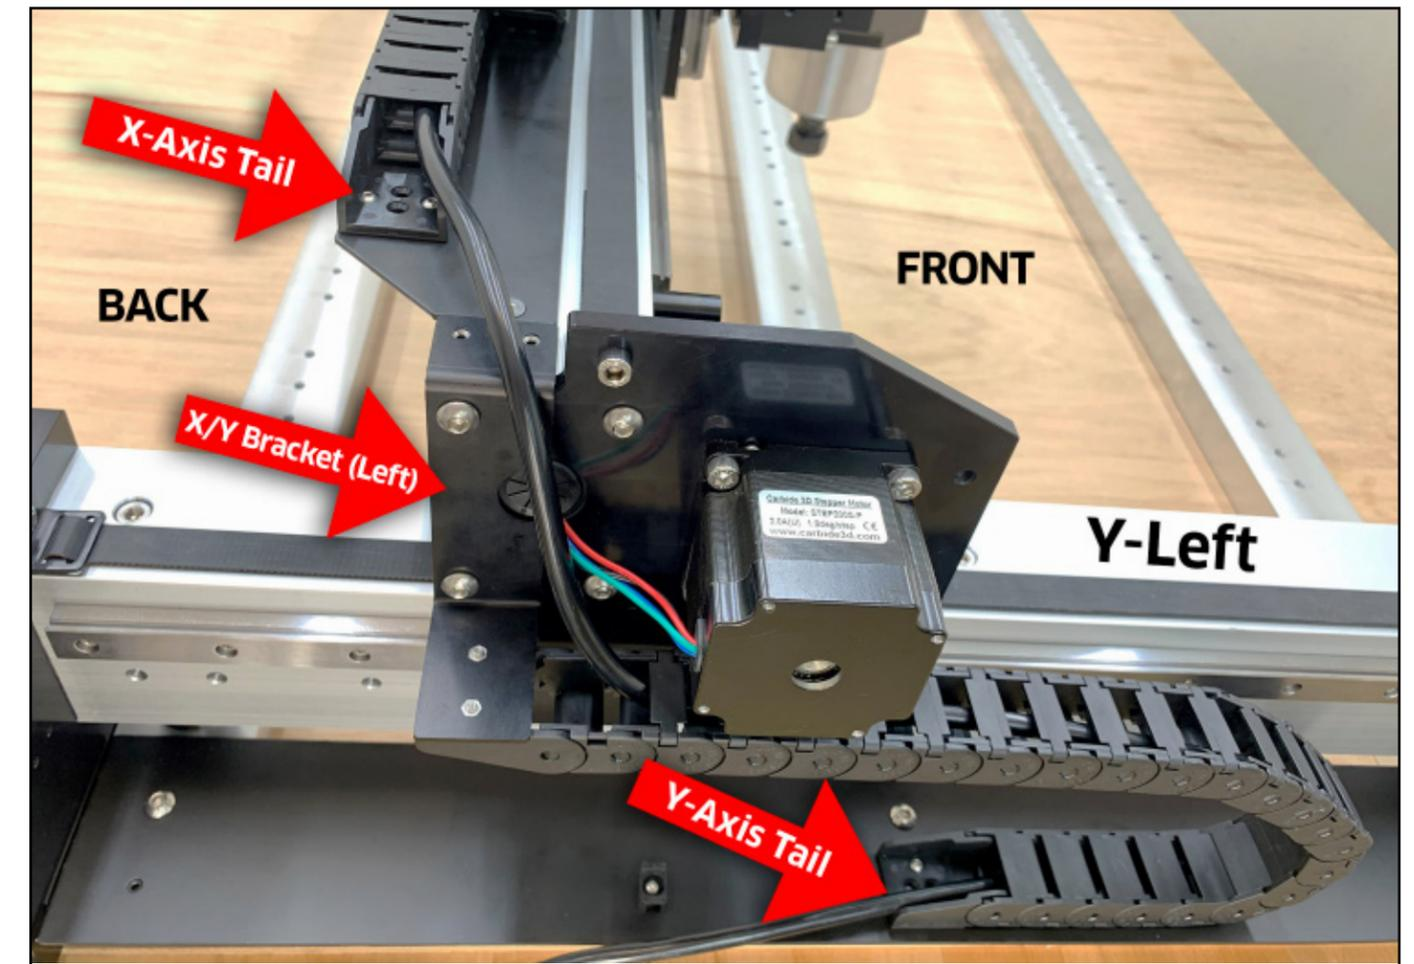

Figure 7-11
1. Use a 4mm hex key to remove the back two (2) M6×12mm BHCS from the left gantry endplate.
2. Position the transition bracket and Y-Axis drag chain combo alongside the Y-Left rail. **See Fig. 7-11.**
3. Use a 4mm hex key and the two (2) M6×12mm BHCS to secure the bracket. Fully tighten.
1. Position the tail of the X-Axis drag chain over the two M3 screw holes at the left end of the X-Axis drag chain support panel. **See Fig. 7-11.**
2. Use a 2mm hex key and the two (2) M3×6mm BHCS to secure the tail to the support panel.
3. Position the tail of the Y-Axis drag chain over the two M3 screw holes on the Y-Left drag chain support panel. **See Fig. 7-11.**
4. Use a 2mm hex key and the two (2) remaining M3×6mm BHCS to secure the tail to the support panel.